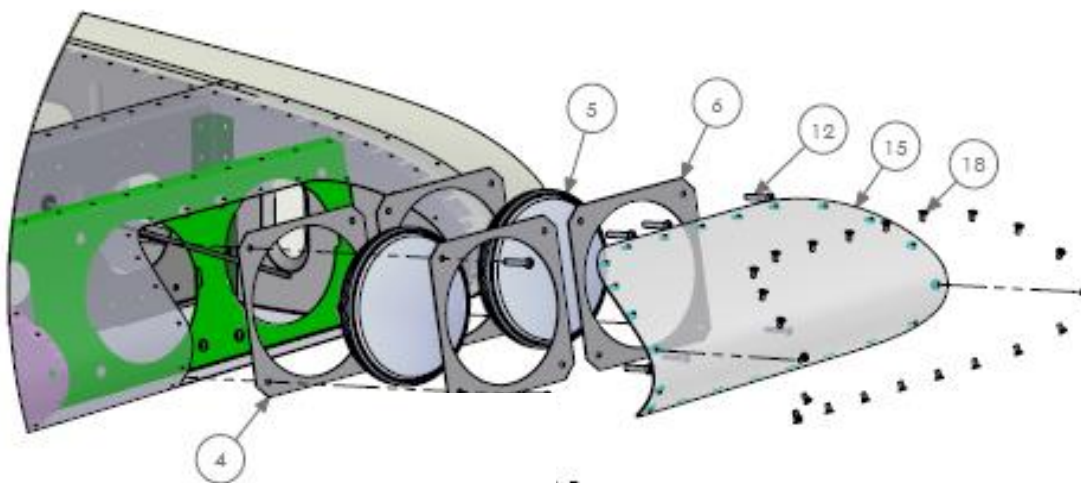

Figure 67 : Landing and taxi light installation.
- Observe correct orientation of the angled plates. Also refer to Figure 67.
- Tie wrap the wires together and to the angled plates (through hole (5)) with a plastic tubular standoff / spacer (6) to distance the wires from the angled plate's edge.